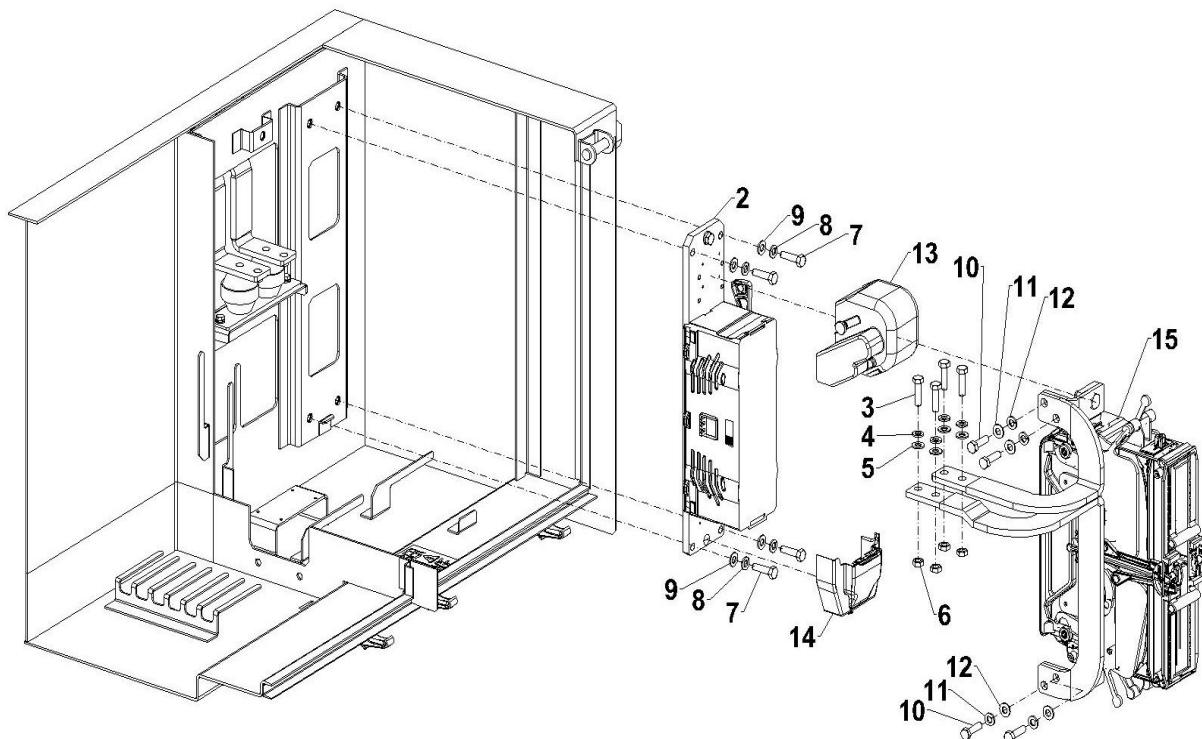

Figure 5-22: Line Switch Contactor Installation
2. Refer to Figure 5-22. Use a 13 mm socket to remove four M8 bolts (10), lock washers (11), and flat washers (12), two on the top and two at the bottom on the left side of the contactor, connected to the bus bars.
3. Squeezing together the black plastic release buttons on the front of the arc chute (15) and turn down the four locking levers one by one. The locking bars will pop up at the release button. Remove the arc chute.
4. Remove the cover (13) of the auxiliary contacts. Loosen the 2 thumb screws and disconnect the wires from the switches with a screwdriver. Cut the cable ties that hold the harness to the contactor base.
5. Remove the screw securing the cover (14) over the coil termination. The coil wires are secure to the contactor with a friction connection. Place a small screwdriver in the slot directly above the wire and press down to remove the two wires.
6. Use a 13 mm socket wrench to remove two M8 bolts (3), lock washers (4), flat washers (5), and nut (6). Remove the two bus bars on the left side of the contractor.
7. Remove the contactor frame (2) from the equipment case frame by loosening the upper and lower M8 hex head bolts (7), lock washer (8) and flat washer (9). Use a 13 mm socket.